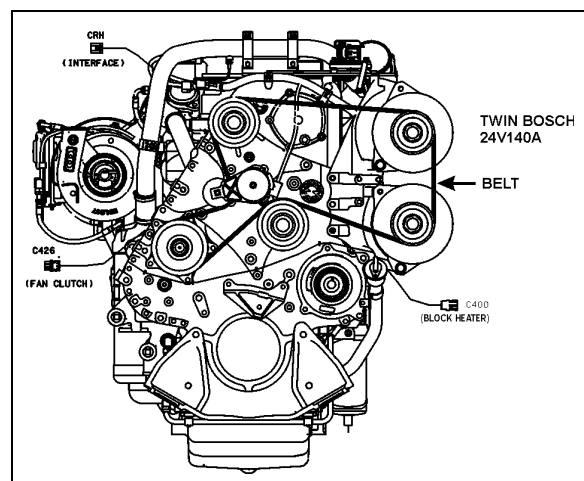

FIGURE 20: ALTERNATOR DRIVE BELT
1. Insert a  $\frac{3}{4}$ " socket drive into the automatic belt tensioner opening (Fig. 20).